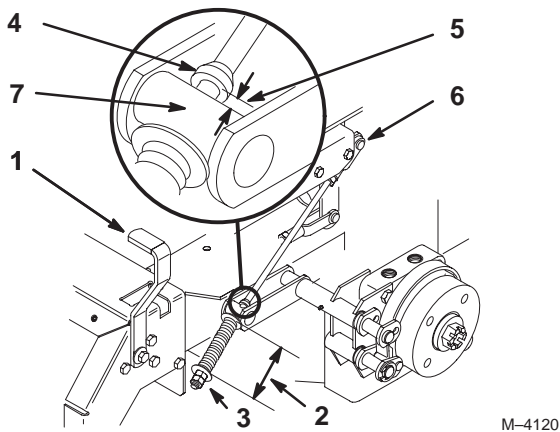

Figure 52
2. Measure the length of the spring. Measurement should be 2–3/4 in. (70 mm) between washers (Fig. 52).
3. If adjustment is necessary, loosen the jam nut below the spring and tighten the nut directly below the yoke (Fig. 52). Turn the nut until the correct measurement is obtained. Tighten the two nuts together and repeat on opposite side of unit.
6. Measure the distance between the trunnion roller and the collar on brake rod. Measurement should be 3/16 –1/4 in. (5–7 mm) (Fig. 52).
7. If adjustment is necessary, loosen the jam nut directly below the yoke. Turn the bottom adjusting nuts until the correct measurement is obtained (Fig. 52). Tighten jam nut at yoke